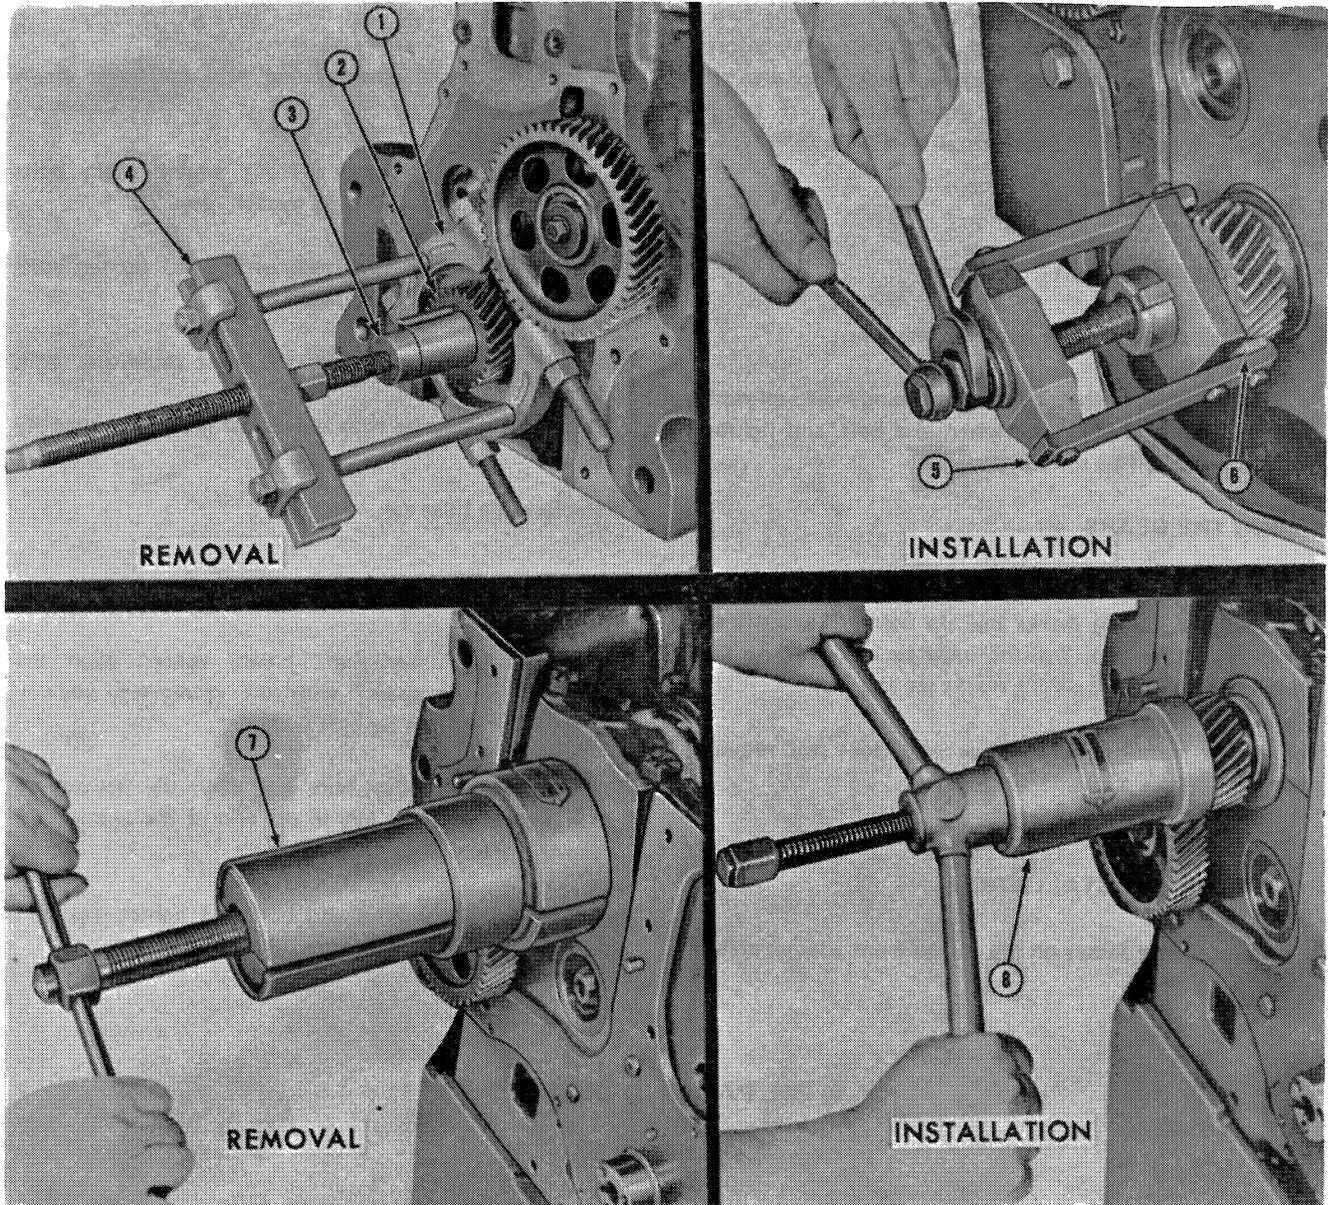

Figure 30
Remove the crankshaft gear with Crankshaft Gear Remover-Replacer, No. SW 501 with Insert SW 501-1, or Remover No. CPT 6040, as shown in Figure 30.
2. Install the crankshaft gear with Crankshaft Gear Remover-Replacer No. SW 501 with Insert SW 501-1, or Replacer No. CT 6069, as shown in Figure 30.